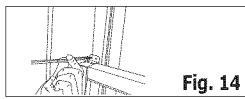

Fig. 14
6. To secure lower sash in place, attach right angle sash lock with 1/2" (12.7mm) screw as shown (FIG. 14).